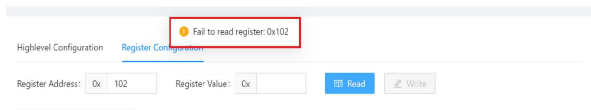

Figure 35. Error Message when Configuring Individual Register
6. If a **Fail to read register** or **Fail to write register** pop-up appears (see Figure 35), check whether the device is disconnected or broken.